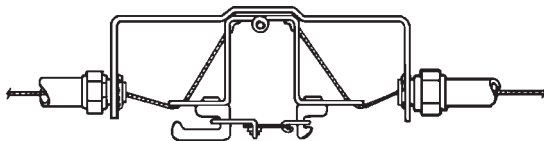

FIGURE 49
- ▶ 8. Starting at the terminal detector, squeeze the linkage together and place the correctly rated ANSUL fusible link over both detector hooks. For optimum detection, make certain the solder joint is in the down position. Locate the linkage in the center of the detector bracket. See Figure 49.